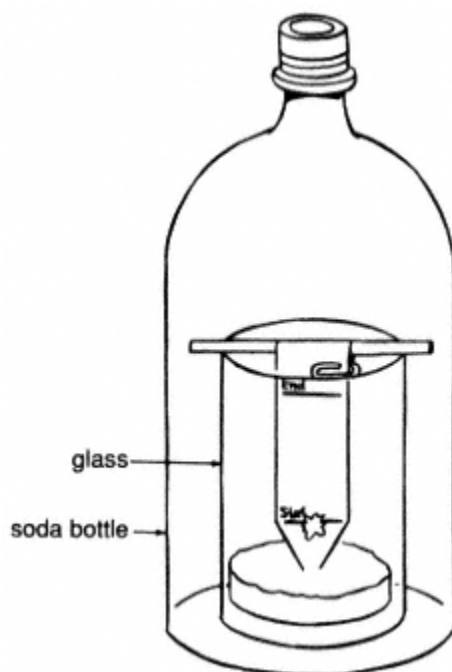

Figure 16.2
22. Secure the cap on the bottle and set the bottle over the glass with the paper strip (see Figure 16.2).